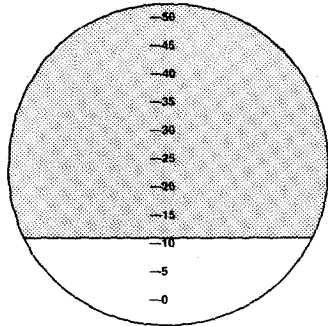

Fig. 2
- A - Open the cover plate (1).
- B - Apply a few drops of pure distilled water on to prism platform (2).
- C - Close cover plate (1).
- D - Rotate calibration screw (6) so that the dark and light boundary line coincides exactly with the 0% line reading on the scale in the 0-50% range.
5. Carefully dry the prism platform and the light reflecting window (7) with soft cotton cloth.
10. If the boundary line is too low or too high to read on the scale you selected, rotate range selector (4) to the other scale. See Fig. 2, and 3 below.